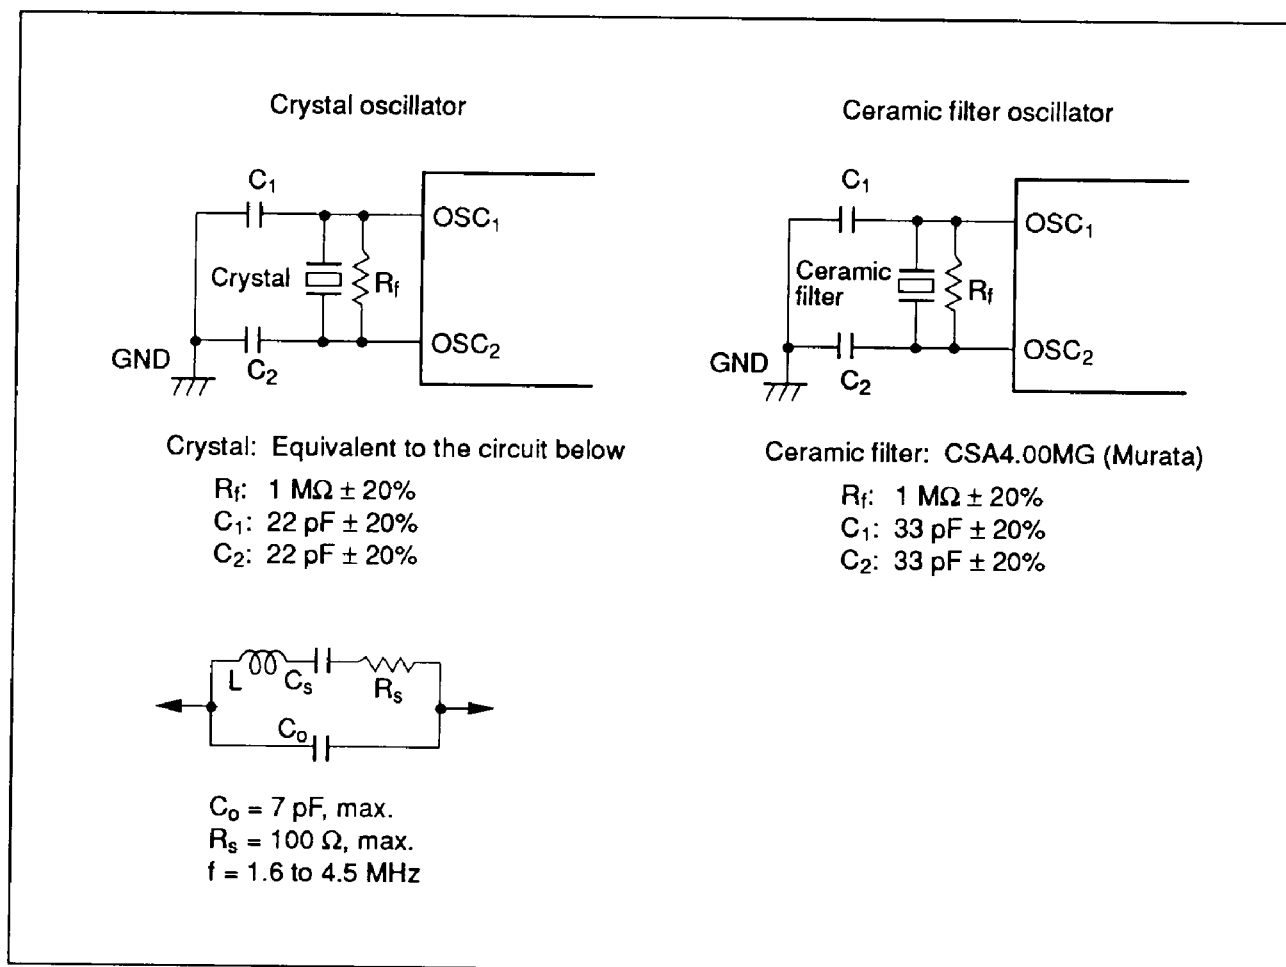

Figure 68 Oscillation Circuits (1)
1. The oscillation stabilization time is the period required for the oscillator to stabilize after  $V_{CC}$  reaches 3.0 V (3.5 V if  $V_{CC} = 3.5$  to  $5.5$  V) at power-on or after RESET input goes high after stop mode is cancelled (figure 68). At power-on and when stop mode is cancelled, RESET must remain high for at least  $t_{RC}$  to ensure the oscillation stabilization time. If using an oscillator, contact the oscillator manufacturer to determine the circuit constants, since the stabilization time depends on the circuit constants and stray capacitances.